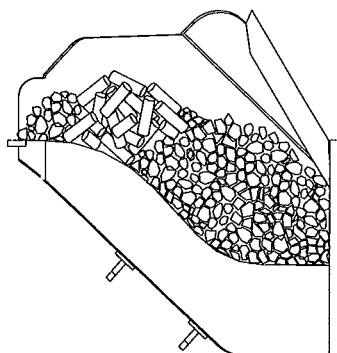

Fig.18
4. **Add more DRY coal** around the starting material but not covering it. See Figure 18. Turning the knob passed the "OFF" position starts the combustion blower and makes the stove ready to light. The distribution blower and feed motor will also run for one minute or less just to let you know they are operational.